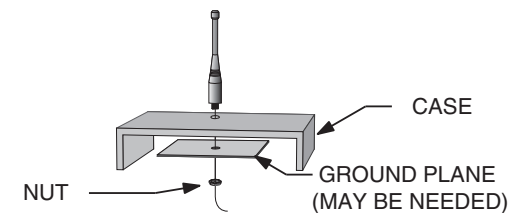

Figure 25: Remote Ground Plane
6. In some applications, it is advantageous to place the module and antenna away from the main equipment (Figure 25). This can avoid interference problems and allows the antenna to be oriented for optimum performance. Always use 50Ω coax, like RG-174, for the remote feed.